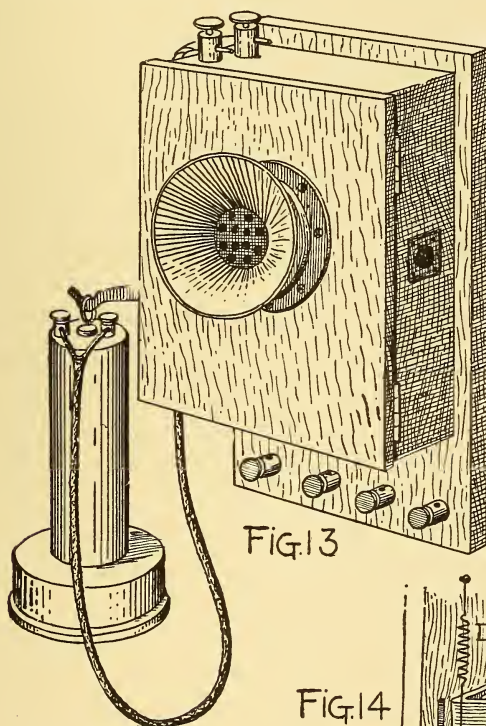

Fig. 13
seven inches high made of pine or white-wood half an inch in thickness (see Fig. 13).
At the left side of the box cut a slot through the wood, so that a lever and hook may project and work up and down. The end of this lever is provided with a hook on which a receiver may be hung, as shown in Fig. 13, and the
and another one is passed under the screw-head which holds the other spring (D) to the box. When the button (B) is pushed in, it brings spring C into contact with D, and the circuit is closed. Directly the finger is removed from B the spring (C) pushes it out and breaks the circuit. This button is used only in connection with the call-bells, and has nothing to do with the telephone. The wires leading from the interior of the box pass through the wall-plate and along in grooves to the foot of the binding-posts, which are arranged below the box on the back-board, as shown in Fig. 13.
This system may be installed in the box shown in Fig. 13, the flexible cord containing two wires being attached to the binding-posts at the top of the box and to the posts at the end of the receiver. This system differs from the one shown in Fig. 6 only in the addition of receivers T and T2, and in the substitution of the automatic lever-switches (L S and L S2) for the plain switches (S and S2) in Fig. 6. When the line is "quiet" the receiver (R) should be hanging on the lever-switch (L S), which rests on the contact-plate (A). At the opposite side of the line the receiver (R2) hangs on the